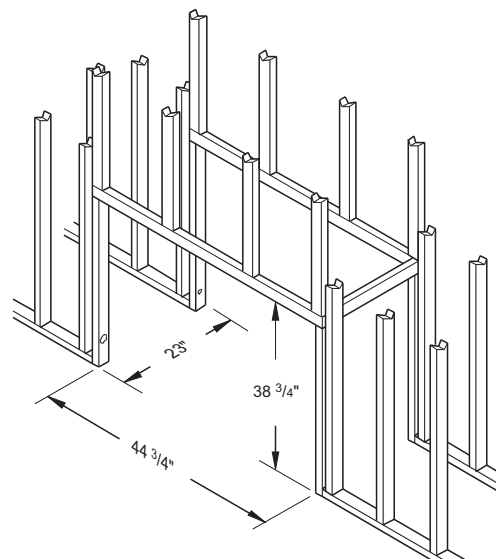

Figure 4 - Framing Firebox
1. Frame opening for fireplace using dimensions shown in Figures 4, 5 and 6 on pages 5 and 6.